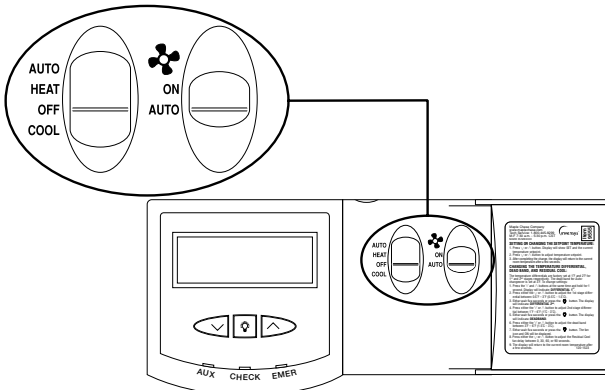

Figure 2
2. Place AUTO-HEAT-OFF-COOL in OFF position (Figure 2).
3. Place ❄️-ON-AUTO switch into AUTO position (Figure 2).